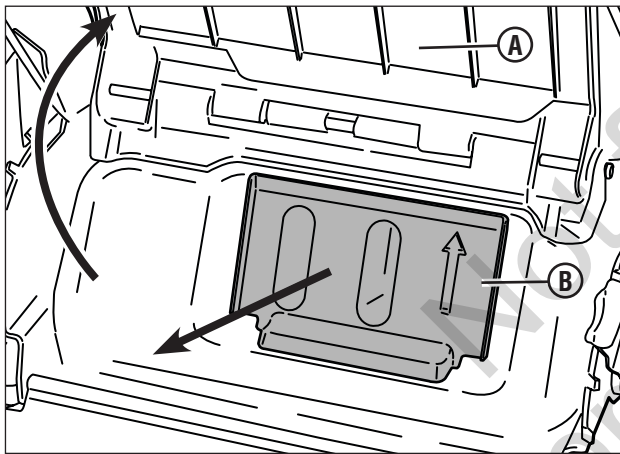

Figure 9: Removing the mulching plug
1. Raise the rear discharge door (**A**, **Figure 9**).